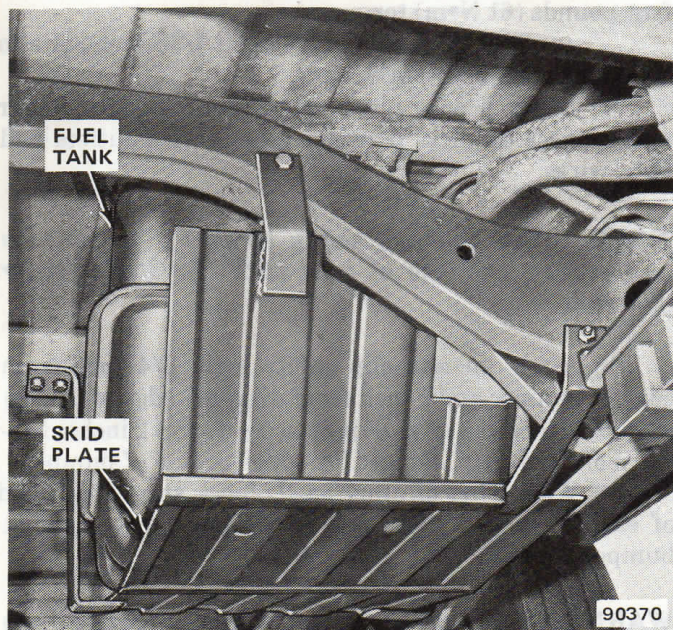

Fig. 18-3 Skid Plate—Truck Models
- (1) Position skid plate around fuel tank (fig. 18-3).